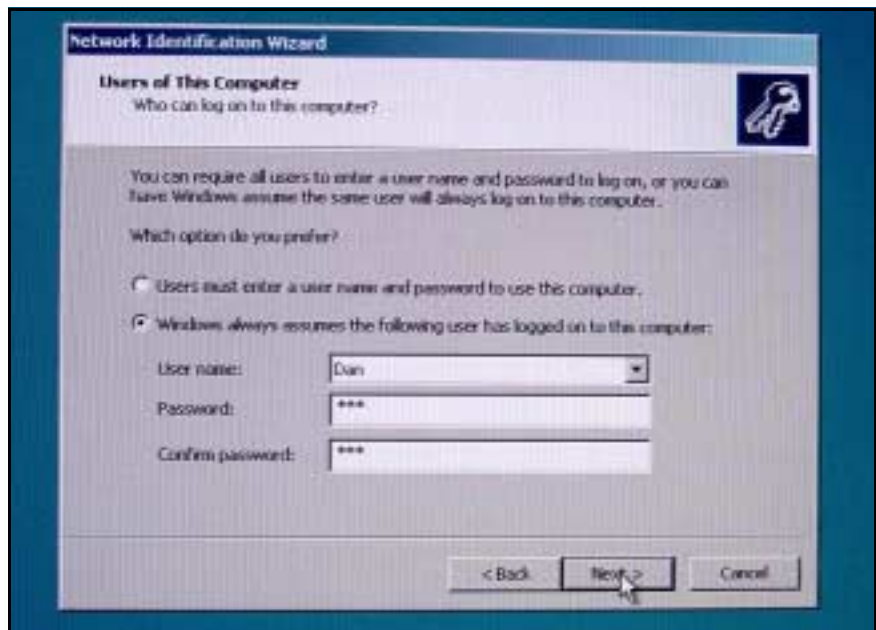

Figure 8-35 Network User screen
28) Type in this computers User Name and Password information (see Figure 8-35) and click on *Next*.